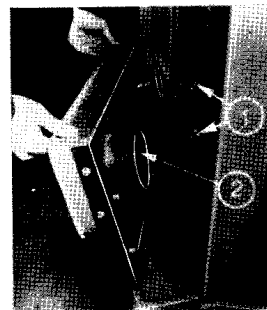

FIG. 36
2. Fig. 36. Remove the four nuts (1), washers and the two earth wires, then lift out the headlight housing and disconnect the wiring.
3. Remove the plastic cover (2) from the rubber surround.